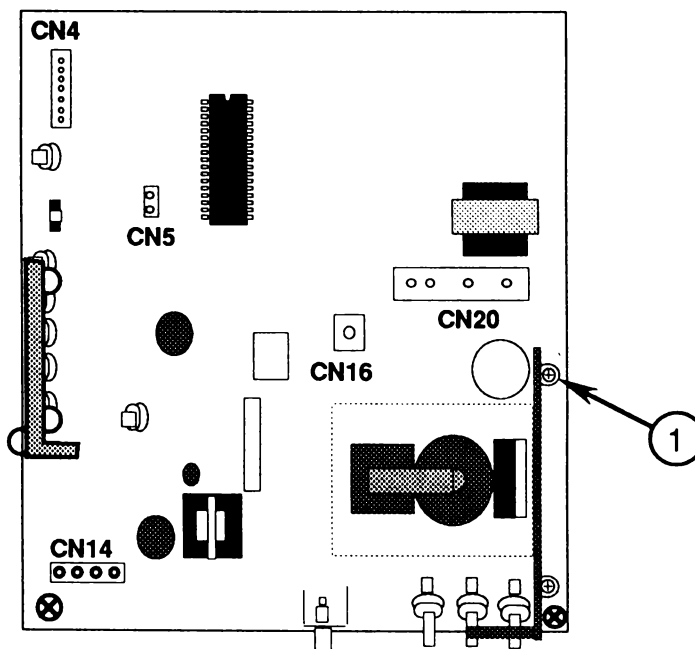

FIGURE 21
- g) Remove the two screws (one from above, one from below) that hold the plastic standoff (Figure 21, #1) in place. Remove the plastic standoff.
- b) Install the two screws (one from above, one from below) that hold the rubber standoff in place (Figure 21, #1).